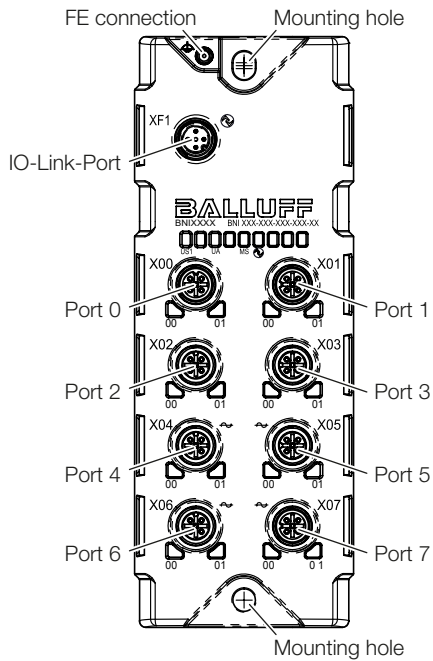

Fig. 4-2: Device overview
- ▶ Fasten the module with 2 M6 screws and a tightening torque of 3 Nm using the mounting holes (see Fig. 4-2 on page 8).